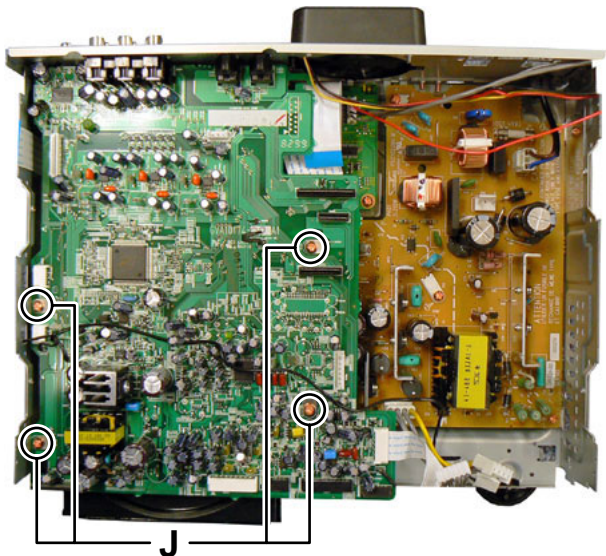

Fig.13
- (6) Remove the four screws **J** attaching the Main board. (see Fig.13)
- (1) Remove the one screw **G** attaching the feed motor assembly.
- (2) Remove the feed motor wires from solder part of spindle motor board.
**3.2.4 Removing the spindle motor assembly (See Fig.13)**